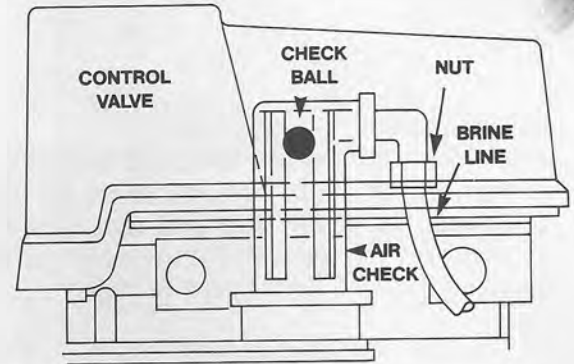

Figure 7
2. Carefully advance pointer knob **COUNTERCLOCKWISE** to center of **BRINE REFILL** position and hold there until air check (Figure 7) fills with water and water starts to flow through brine line into brine tank. Do not run for more than 1 or 2 minutes.